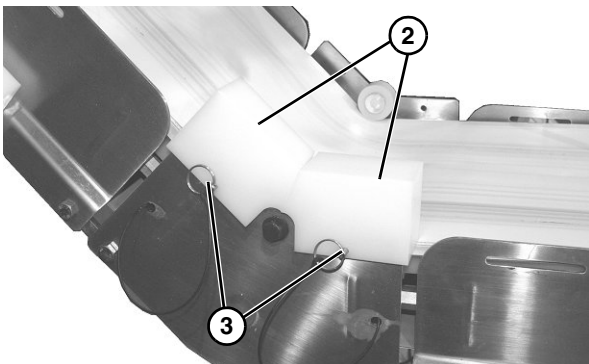

Figure 24
2. Slide the guides (**Figure 24, item 2**) onto the knuckle frame, and secure with two pull pins (**Figure 24, item 3**).